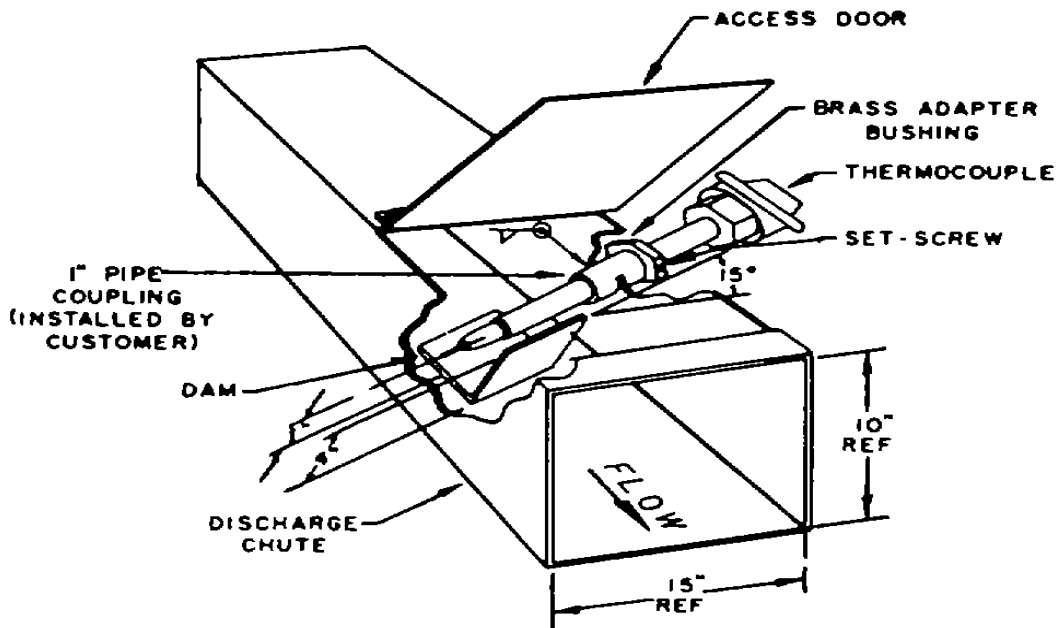

Fig. 2-Drawing showing the placement of the thermocouple and "dam" in the dryer discharge chute.
5. Install a Hauck Rapid Response Material Temperature Thermocouple in the material discharge chute to sense the temperature of the material leaving the dryer. The thermocouple should be installed as shown in figure 2.